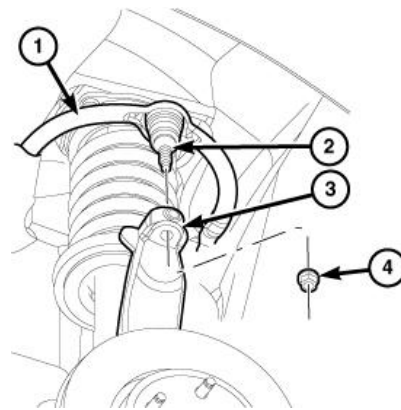

Figure 12 – Ball Joint Nut
24. Remove the upper ball joint nuts (4) and **DISCARD** (Figure 12).
26. Install the **NEW** upper ball joint nuts (4) and tighten to 165Nm (122ft. lbs.) (Figure 12).